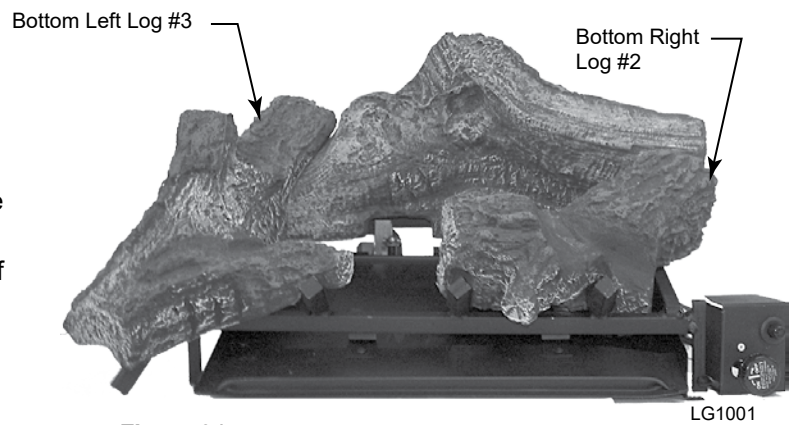

**Figure 29**
1. Place back log (#1) on back of base aligning two (2) pins on base with holes in bottom of log. *Figures 29 and 30*